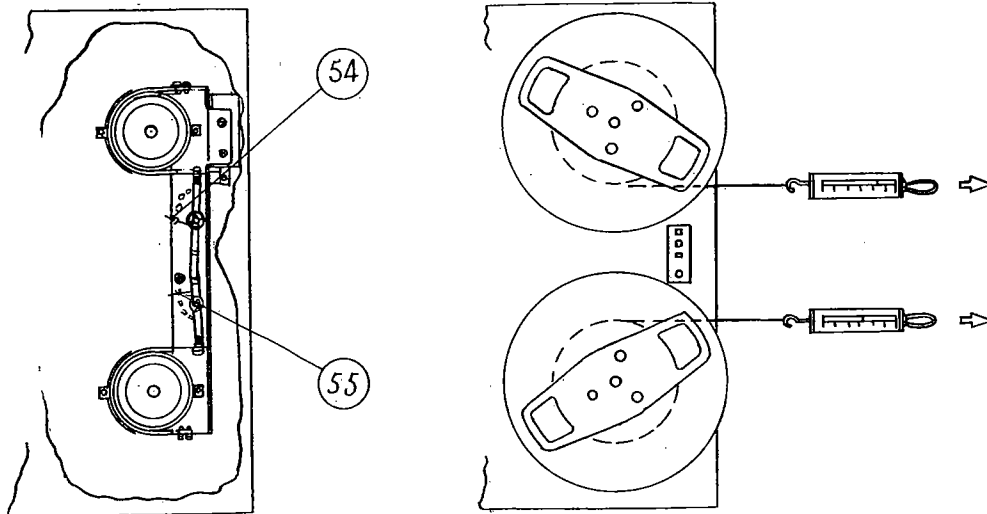

FIG. 7 BRAKE ADJUSTMENT
Brake adjustment is made $\frac{1}{2}$ (with no power applied to the equipment) $\frac{1}{2}$ at the point shown in Fig. 7.
6. Adjust the left motor brake by the position of the brake adjusting plate (54, Fig. 7 for a scale reading of approximately 5.5 ~ 7 ounces (11 ~ 14 in.-oz.).